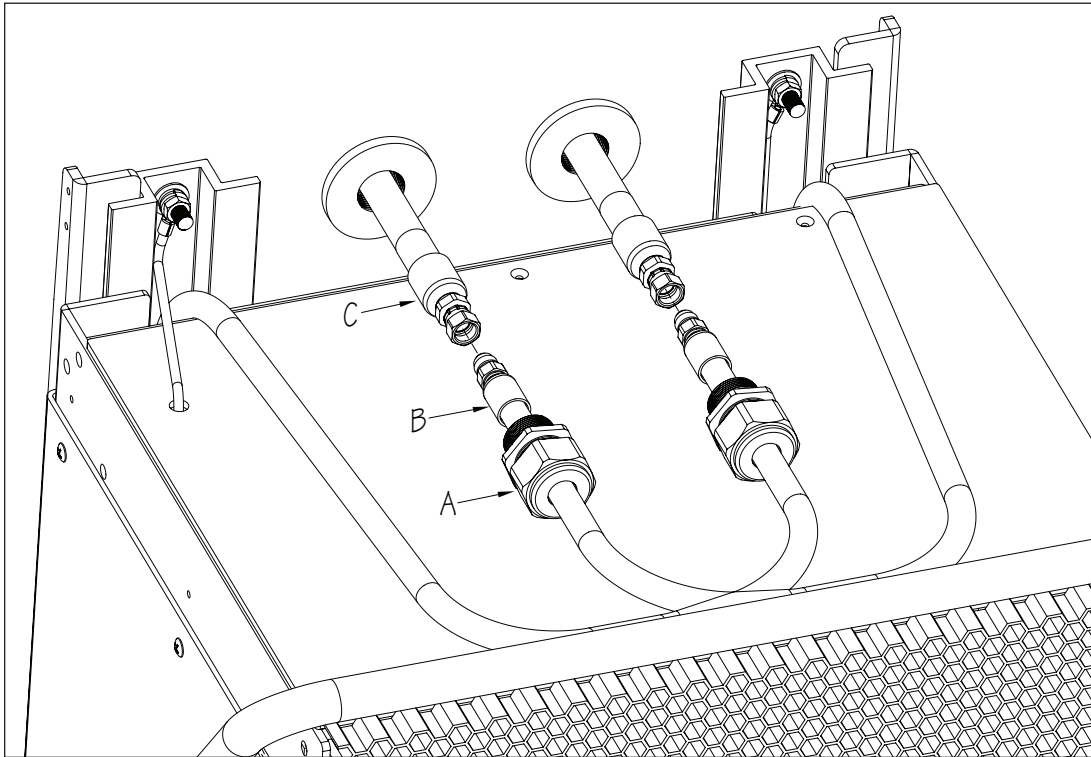

Fig. 10
3. The Hydraulic Sub Hoses can be removed from the hose clamps to make this next step easier. Apply Teflon tape to the threads of the Liquid Tight Fittings (A) and then install the fittings onto the Sub Hoses (B).
There is red tape wrapped around one of the Sub Hoses (B) and one of the Run Hoses (C) representing low-pressure. Attach the Sub Hose with the red tape to the Run Hose with the red tape. Attach the other Sub Hose (high-pressure) to the remaining Run Hose. Feed the hoses into the conduit (Fig. 10).